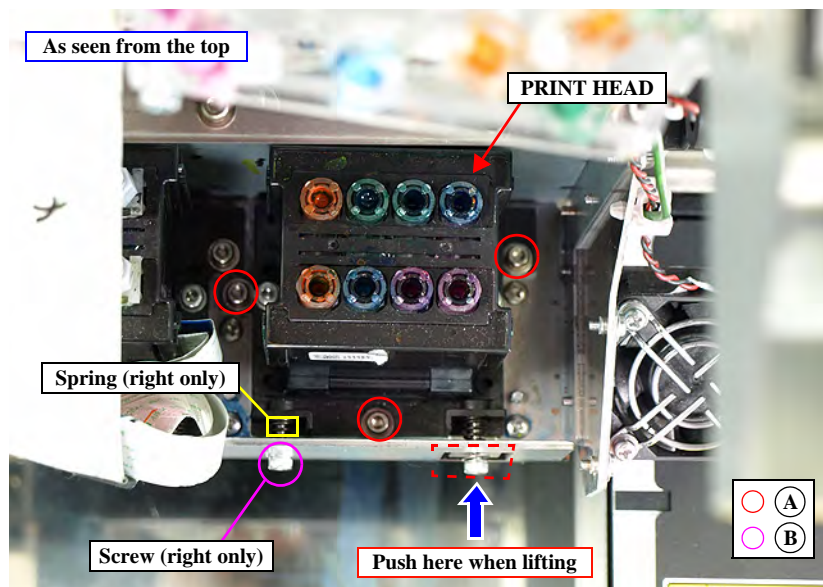

Figure 4-129. Removing the PRINT HEAD with the Head Base
When installing the spring between the PRINT HEAD and the frame (See Figure 4-129), follow the procedure below using the Spring Holder Jig. (the right one only)
2. Put the jig in place. (See Figure 4-129 and the figure below.)